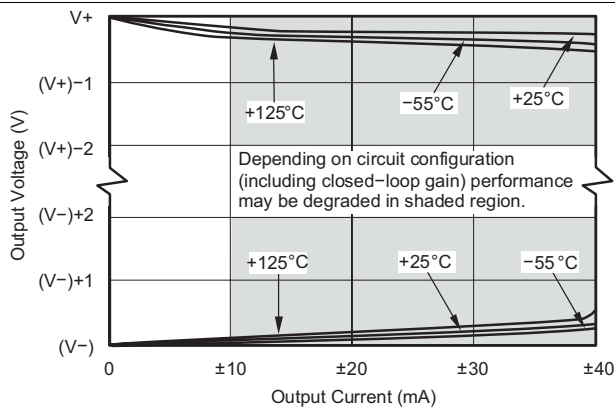
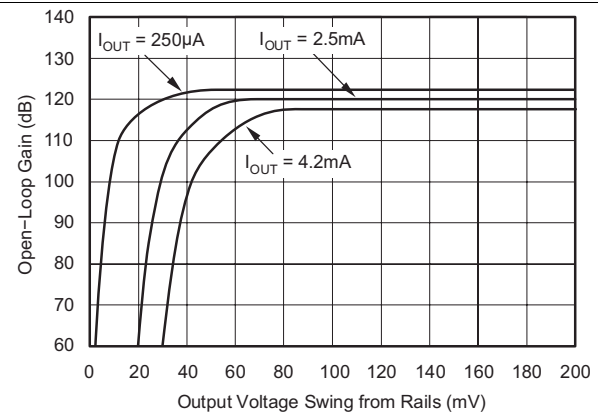

Figure 17. Output Voltage Swing vs Output Current
Figure 18. Open-Loop Gain vs Output Voltage Swing
(4) Output voltage swings are measured between the output and power supply rails.
(5) See Figure 17.
A class AB output stage with common-source transistors achieves rail-to-rail output. For light resistive loads ( $>10$  k $\Omega$ ), the output voltage swing is typically ten millivolts from the supply rails. With heavier resistive loads (600  $\Omega$  to 10 k $\Omega$ ), the output can swing to within a few tens of millivolts from the supply rails and maintain high open-loop gain. See Figure 17 and Figure 18 for more information.